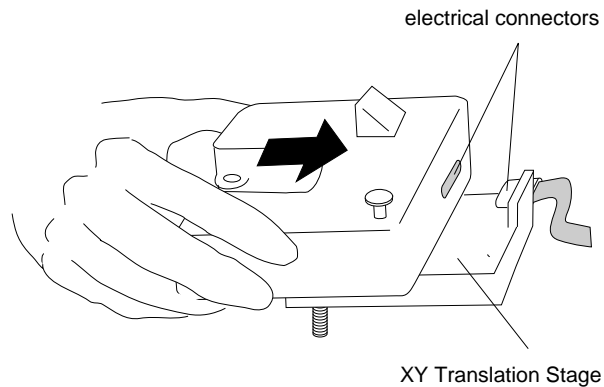

Figure 2-7. Installing the probe head by sliding it onto the support arms of the XY stage.
2. Slide the probe head onto the support arms of the XY stage. The electrical connector on the head plugs into a connector mounted on the back of the support arms, as shown in Figure 2-7, below.